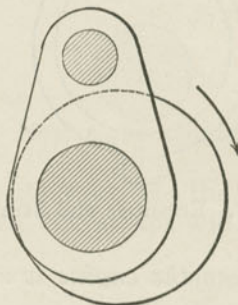

Fig. 178. Single Eccentric, Lapless Valve, no rocker.
*A.* If there was no rocker arm it should be placed with its belly or high part  $90^\circ$  ahead of the crank pin, in the direction in which it was desired that the axle should turn; it would be as in Fig. 178.